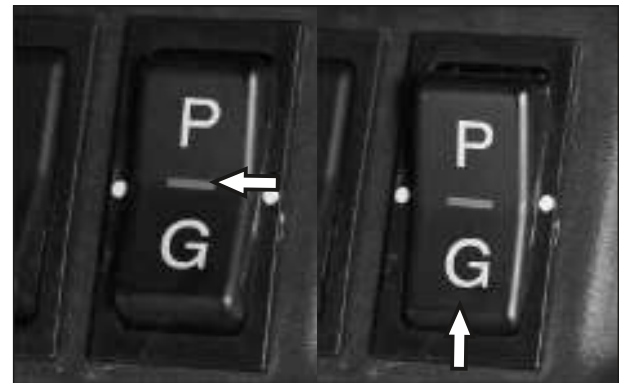

Fig. 2.57
- Keep the changeover switch in Neutral mode - 'N'. (Fig. 2.57)
- Keep the changeover switch in 'G' LPG mode and run the vehicle in 40km/hr speed for 1 to 2 km. (Fig. 2.57)